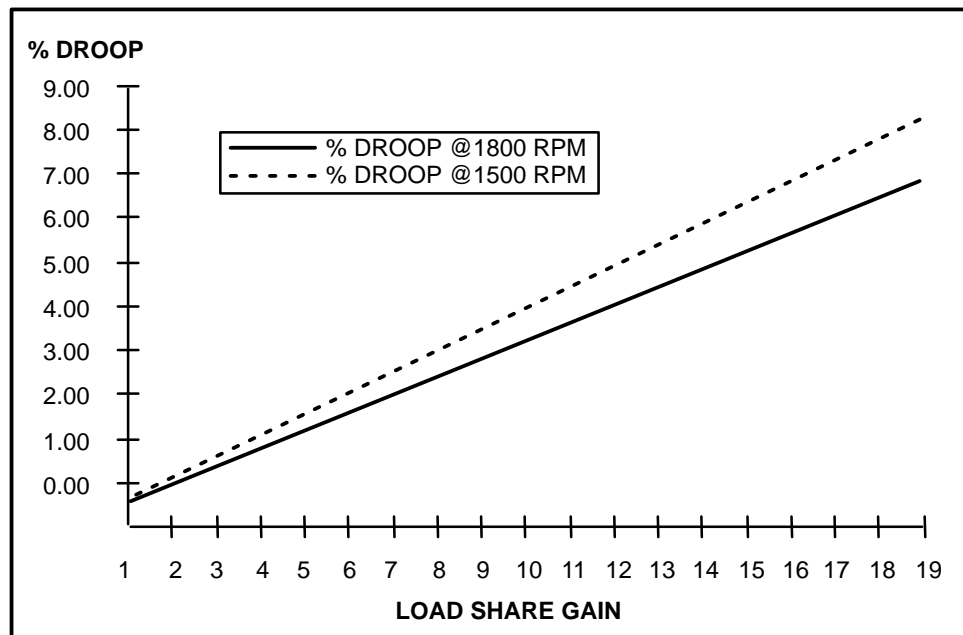

FIGURE 5-7. PERCENT SPEED DROOP VERSUS KW LOAD SHARE GAIN
2. Apply 100% load to the generator set, and adjust the KW load sharing gain to obtain the desired full load operating frequency. Adjust the KVAR load sharing gain to obtain the desired full load operating voltage. Refer to Figure 5-7 for typical gain settings for specific droop levels.